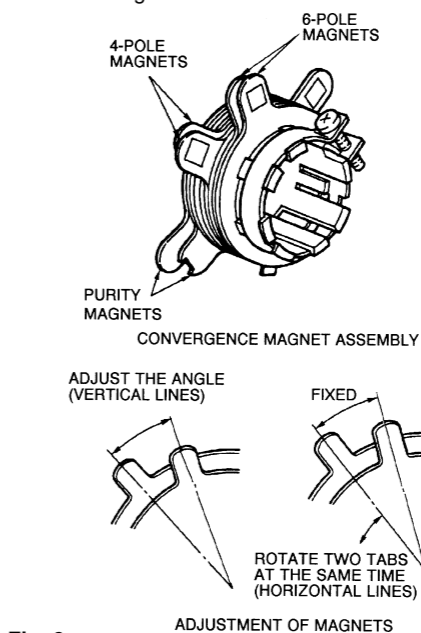

Fig. 2
- Rotate and spread the tabs of the purity magnet (See figure 2.) around the neck of the picture tube until the green belt is in the center of the screen. At the same time, enter the raster vertically.
- Adjust two tabs of the 4-Pole Magnets to change the angle between them (See figure 2.) and superimpose red and blue vertical lines in the centre area of the picture screen.